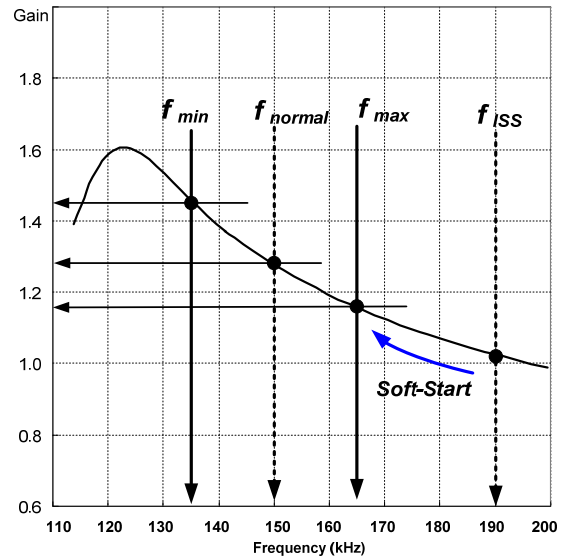
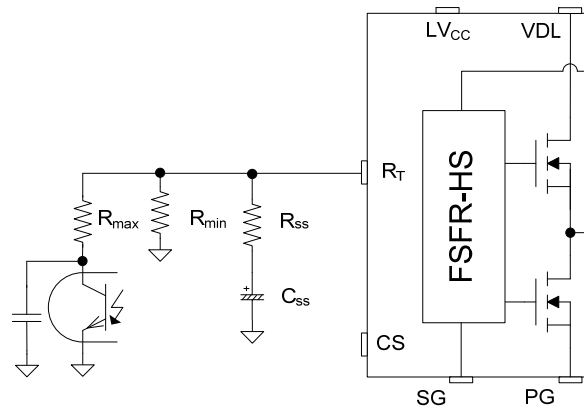

Figure 20. Resonant Converter Typical Gain Curve
Figure 21. Frequency Control Circuit
3. Frequency Setting: Figure 20 shows the typical voltage gain curve of a resonant converter, where the gain is inversely proportional to the switching frequency in the ZVS region. The output voltage can be regulated by modulating the switching frequency. Figure 21 shows the typical circuit configuration for the RT pin, where the opto-coupler transistor is connected to the RT pin to modulate the switching frequency. The switching frequency may be controlled from 20kHz to 500kHz.
The soft-start circuit is constructed by connecting R-C series network to the RT pin, as shown in Figure 21. Initially, the operating frequency is set by the parallel impedance of R_{SS} and R_{min} .